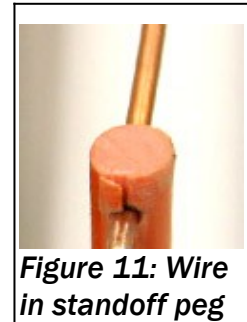

Figure 11: Wire in standoff peg
c) **Wire holes.** Near one end of every peg, drill a hole large enough to freely pass your antenna wire (Figure 11). No. 12 bare wire is about 0.08" in diameter, so a $\frac{3}{32}$ " (0.094") hole is sufficient. Drilling a hole into the side of a $\frac{1}{4}$ " fiberglass peg is tricky. Clamp the peg in a vise, then use a center punch or nail to make a dimple. Start with a small drill bit to act as a pilot hole, then drill the final hole. *Wear gloves and a mask to protect against fiberglass dust.*